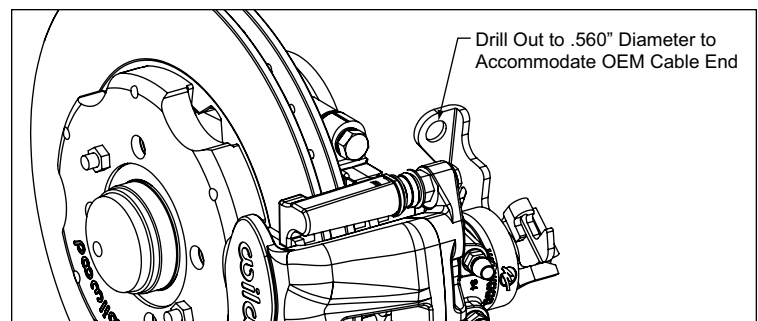
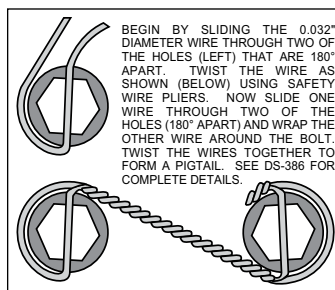

Figure 1. Caliper Cable Bracket Modification
Figure 4. Safety Wire Diagram
The parking brake cable bracket on the new Wilwood calipers needs to be modified to accommodate the original equipment cable end. Drill out the existing hole in the caliper as shown in Figure 1 to .560" diameter.
**Assembly Instructions** (numbers in parenthesis refer to the parts list and Figure 1 on the preceding pages):
- The caliper mount bracket (1) should initially be installed with clean, dry threads on the mounting bolts. Orient the bracket as shown in Figure 1 and Photo 1, and install using washers (3) and bolts (2). Initially place two .030 thick shims (4) on each bolt between the bracket and upright, Figure 1. Temporarily tighten the mounting bolts. **NOTE: The bracket must fit squarely against the mount bosses on the upright.** Inspect for interference from casting irregularities, machining ridges, burrs, etc. Later, after the caliper alignment has been checked, the mount bolts will be secured using red *Loctite*® 271.
- Orient the rotor (6) and the hat (7) as shown in Figure 1 and Photo 2. Attach rotor to hat using bolts (9) and washers (8). Apply red *Loctite*® 271 to the bolt threads and torque to 155 in-lb using a criss-cross pattern. For an added measure of security, the bolts may be safety wired using standard 0.032 inch diameter stainless steel safety wire as shown in Figure 4. Please refer to Wilwood's data sheet DS-386 (available at [www.wilwood.com/Pdf/DataSheets/ds386.pdf](http://www.wilwood.com/Pdf/DataSheets/ds386.pdf)) for complete safety wire installation instructions.
- Slide the rotor registration adapter (5) onto the axle register on the axle hub with the smaller O.D. facing outward, Photo 3. Slide the hat/rotor assembly onto the axle hub. **NOTE: The hat must fit flush against the axle hub flange or excessive rotor run out may result.** Install three lug nuts (finger tight) to keep the hat/rotor assembly in place while continuing with the installation.
- Install the brake pads (15) into the caliper (10) from the bottom with the friction material facing the rotor until the "v" spring clip snaps into place against the anvil, as shown in Figure 1 and Photo 4. They should install easily without interference.
- Initially place two .035" thick shims (14) on each stud (13) as shown in Figure 1 and Photo 5. Mount the caliper (10) onto the bracket (1) using lock nuts (11) and washers (12), Figure 1 and Photo 6. Temporarily tighten the lock nuts and view the rotor from the end of the caliper. The rotor should be centered in the caliper, Photo 7. If not, adjust by adding or subtracting shims (4) between the bracket and the upright. Always use the same amount of shims on each of the two mounting bolts. Once the caliper alignment is correct, remove the bracket mounting bolts (2) one at a time, apply red *Loctite*® 271 to the threads, and torque to 30 ft-lb.